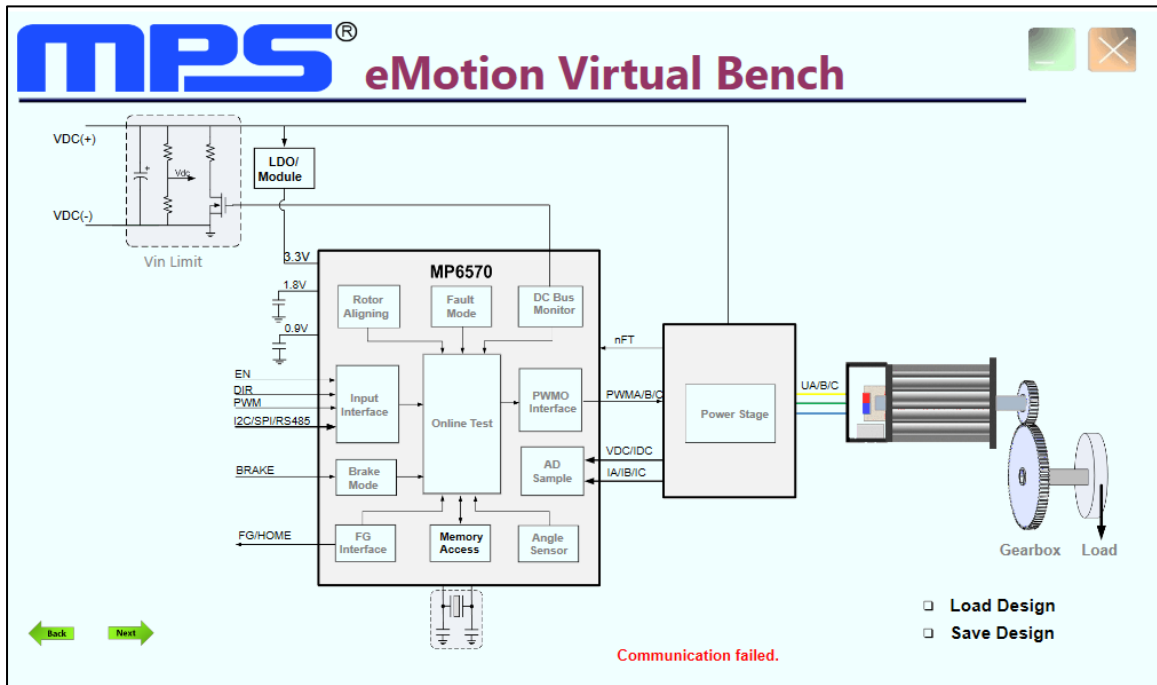

Figure 7: Connection Status
- If the connection is unsuccessful, the connection status will be listed as “USB device unconnected” or “Communication failed” in red (see Figure 7). Check the connections between the EVB, communication interface, and PC or re-plug the USB into the computer.